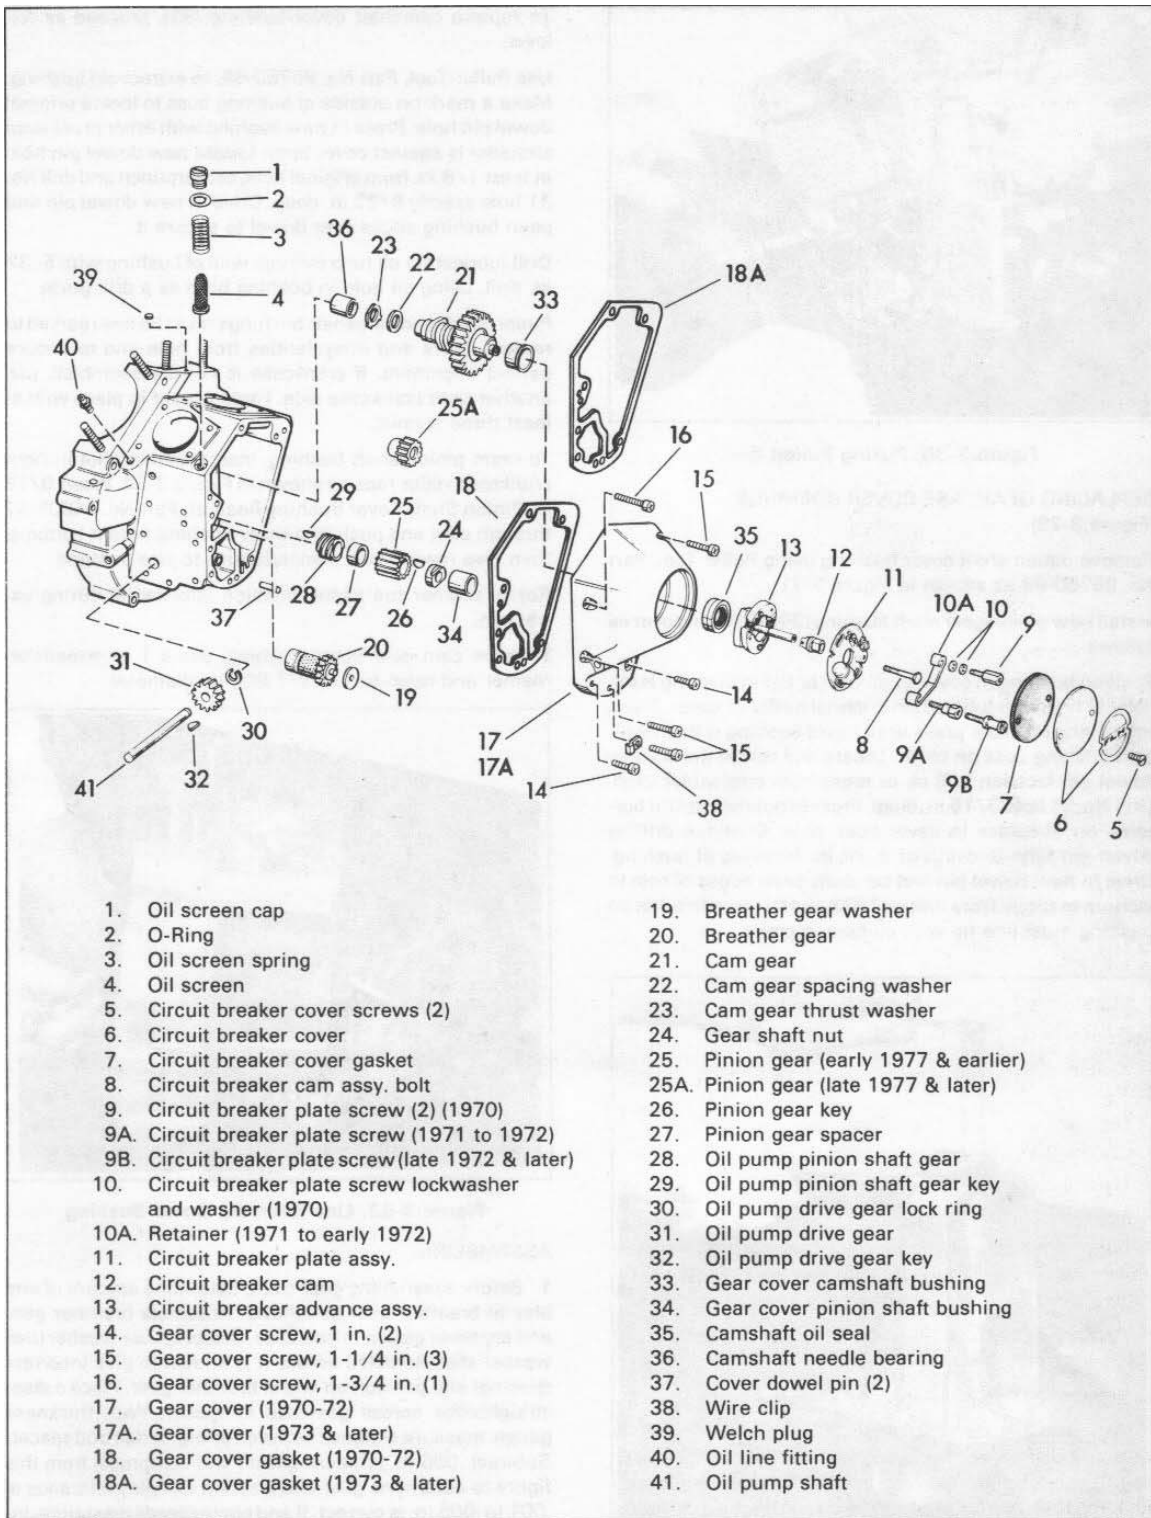
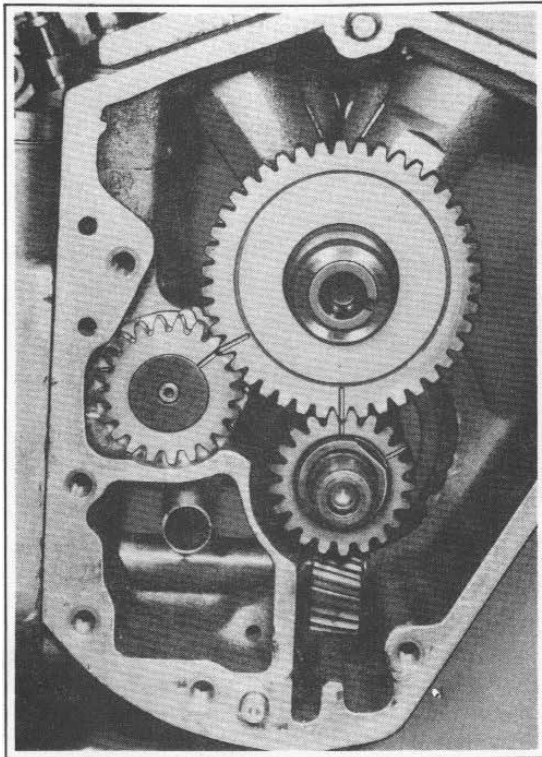

Figure 3-29. Gearcase - Exploded View
Figure 3-33. Timing Gears with Timing Marks Aligned
DISASSEMBLING GEARCASE (Figure 3-29)
CLEANING AND INSPECTING (Figure 3-29)
REPLACING GEARCASE COVER BUSHINGS (Figure 3-29)
3. Make final gearcase assembly including all parts in approximate reverse of disassembly order. Make sure that chamfer on oil pump pinion shaft gear (28) is toward the inside. Tighten pinion gear shaft nut (24, Figure 3-29) to 35-45 ft-lbs and check to see that gearshaft pinion spacer has noticeable end play. Breather, cam and pinion gears contain timing marks which must be aligned or matched as shown in Figure 3-33. Rotate gear train and note if it revolves freely. A bind indicates gears are meshed too tightly.